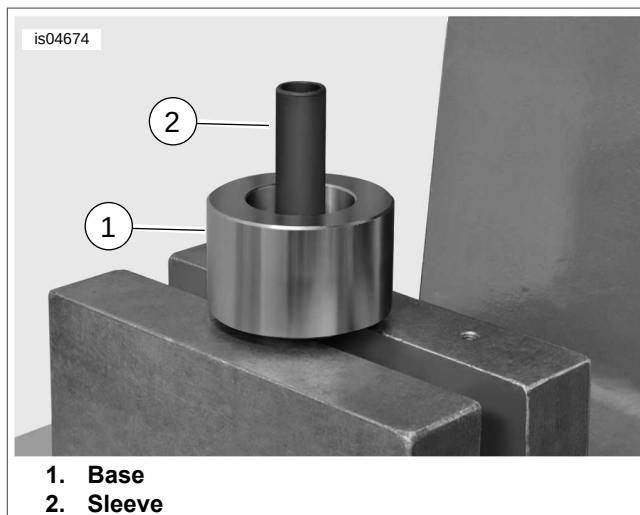

Figure 2-61. Base and Sleeve Set for Bearing Removal
6. See Figure 2-61. Position BASE (Part No. HD-48921-2) on press blocks with the large OD topside. Slide SLEEVE (Part No. HD-48921-4) over base pin.